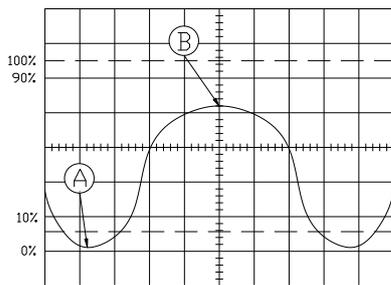

Fig. 5-3
- (1) Input the signal to CH1 or CH2 and set the selected channel to VERT.
- (2) Set the voltage attenuator and observe the waveform. Keep the displayed waveform to be about 5 DIV. Check the variable and rotate to CAL clockwise.
- (3) Adjust the level to keep the waveform stable (not necessary if the level is locked)
- (4) Adjust the sweep speed to keep at least one wave cycle to be displayed on the screen.
- (5) Adjust the vertical position to keep the wave bottom to be on a certain horizontal coordinate on the screen (shown as Point A in Fig. 5-3)
- (6) Adjust the horizontal position to keep the wave top to be on a certain horizontal
coordinate in the center of the screen (shown as Point B in Fig. 5-3)
For example: in Fig. 5-3, the vertical division number between Point A & B is 4.2 DIV, the vertical deflection factor of 10:1 probe is 2V/DIV, so, $V_{p-p} = 2 \times 4.2 = 8.4V$